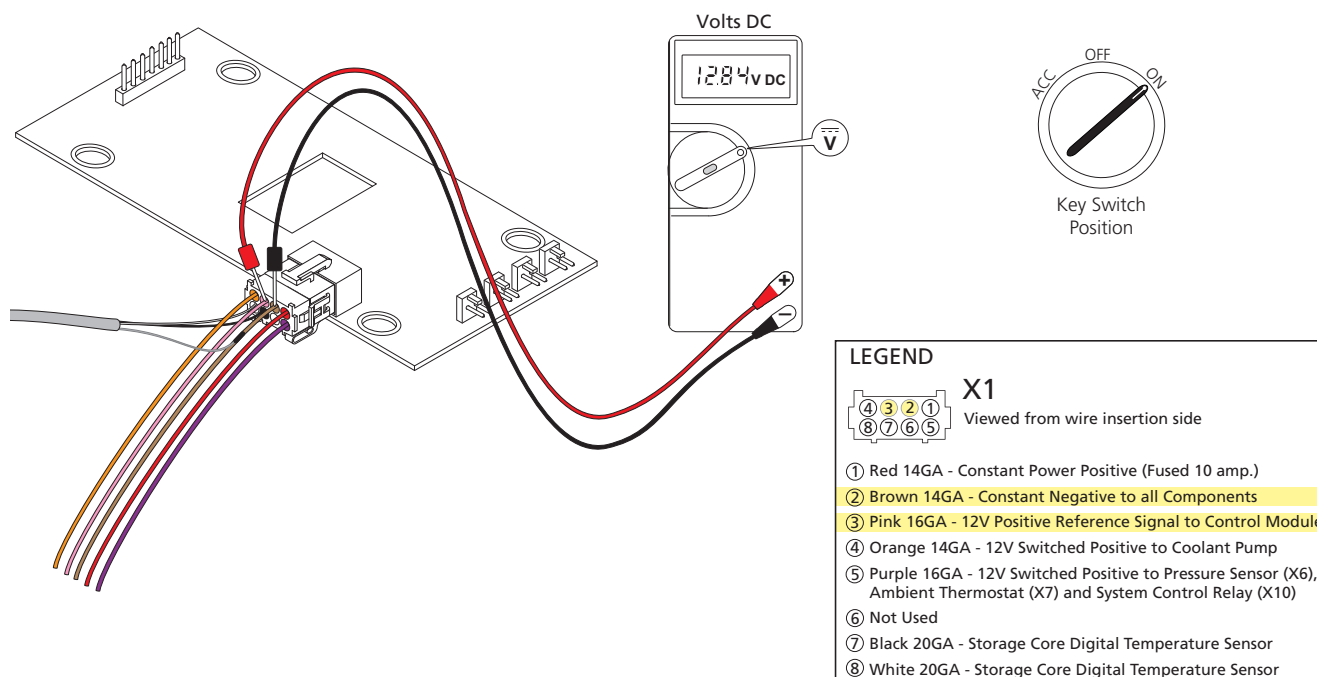

Figure 17. 12 volt positive reference signal to control module - charging mode
*During the half hour period before system activation occurs, the "Key On Signal (KOS) with 12V reference signal to control module" can be checked for a 12 volt positive signal. Refer to Fig. 17, on pg. 17.*